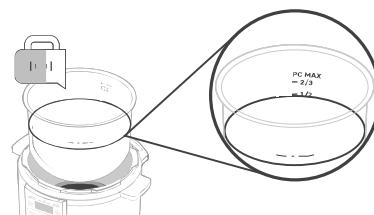

Figure 8.1
2. Fill the inner pot with water to the “–½” line. **[Figure 8.1]**